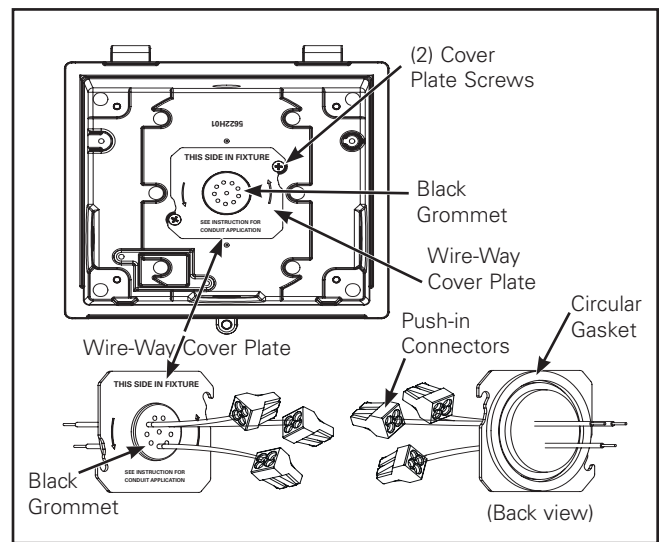

Figure 2.
3. Over Junction Box Wiring And Rear Entry Conduit Installation: Loosen But DO NOT remove two screws securing wire-way cover plate (Figure 2). Rotate wire-way cover plate counterclockwise and remove wire-way cover plate from opening. Do not remove the wire-way cover plate for thru-branch wiring.
4. Over Junction Box: Make supply wiring connections to the backside of the wire-way cover plate. Follow NEC guidelines for wet location wiring (wire nuts supplied by others). Ensure all wires are secured in the junction box and re-install wire-way cover plate by rotating clockwise into the screws. Tighten wire-way cover plate screws to 10 in-lbs. (Figure 2).
Thru-Branch Conduit: Remove the required 1/2" NPT conduit plug(s). Apply sealing compound or Teflon tape to liquid tight conduit fitting (supplied by others) entering back box to create water tight seal. DO NOT remove the wire-way cover plate (Figure 2). Remove wire leads from the wire way cover plate by gently pulling the wiring located in the black grommet toward you. DO NOT remove black grommet from the wire-way cover plate.
Back Conduit Entry: Remove the black grommet and wires from the wire-way cover plate (DO NOT remove circular gasket). Attach conduit to wire-way cover plate with watertight connector. Re-install wire-way cover plate by rotating clockwise into the screws. Tighten wire-way cover plate screws to 10 in-lbs. (Figure 2).